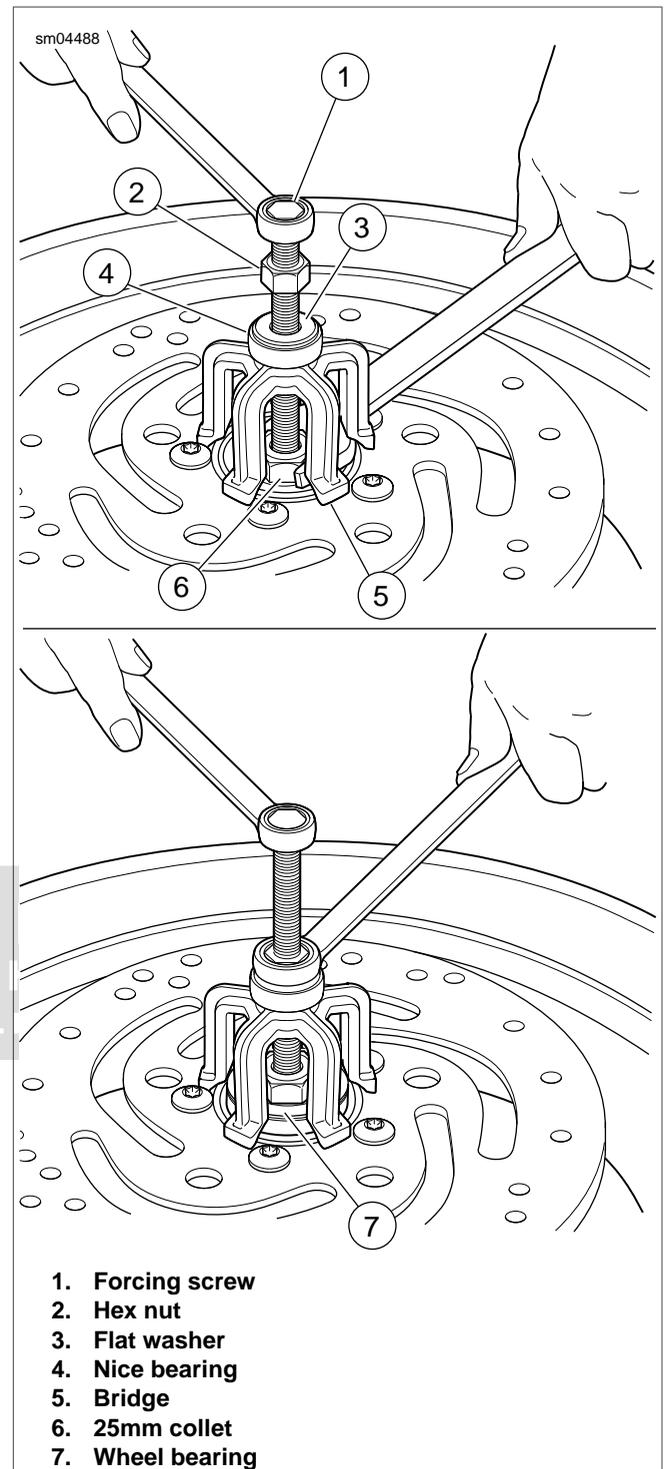

Figure 2-27. Remove Wheel Bearings
- h. Holding hex on forcing screw to prevent rotation, turn hex on collet until lip makes firm contact with inside edge of bearing. See upper frame of Figure 2-27.
- i. Turn hex nut until bearing is free. See lower frame of Figure 2-27. Discard bearing.